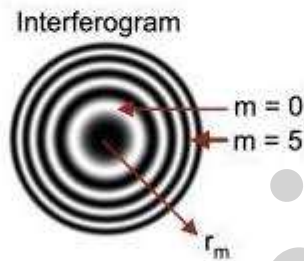
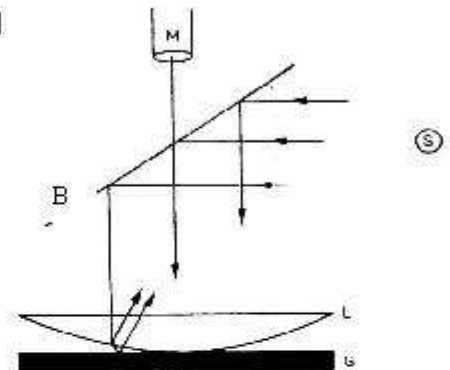

Figure 3.
Figure 4.
**(C) Calculation of diameters of Newtons Ring:**
When a plano-convex lens (L) of long focal length is placed on a plane glass plate (G), a thin film of air is enclosed between the lower surface of the lens and upper surface of the glass plate (see fig 4). The thickness of the air film is very small at the point of contact and gradually increases from the center outwards. The fringes produced are concentric circles. With monochromatic light, bright and dark circular fringes are produced in the air film (see fig 3). *When viewed with the white light, the fringes are colored.*